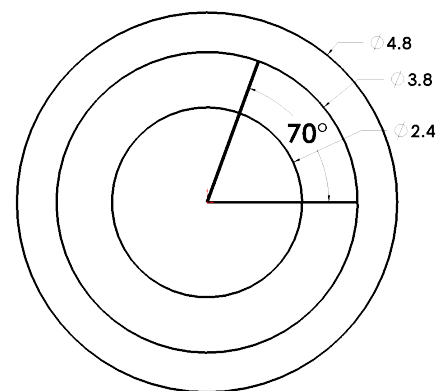

Fig. 3
- Step 1. Click **Line**  (L) on the Sketch toolbar.
- Step 2. Starting from the Origin  draw **two lines** out to the middle circle. Keep **one line horizontal** and the other at angle as shown in **Fig. 3**. To restart the line, **right click** and select **End Chain** from menu.
- Step 3. Click **Smart Dimension**  (S) on the Sketch toolbar.
- Step 4. Dimension the angle between the lines **70 degrees** as shown in **Fig. 3**. To Smart dimension the angle click both lines then move the cursor out away from the lines and click. Key-in **70** for the dimension and press ENTER.